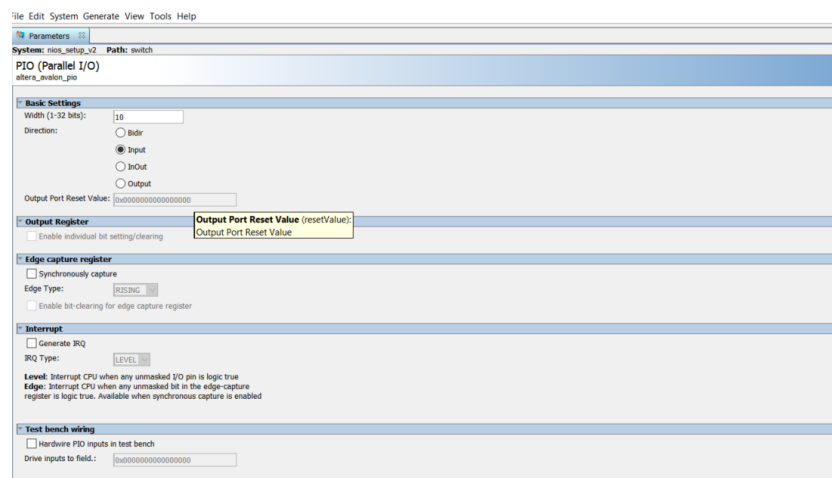

Figure 17: Parallel IO Configuration for Switch Input Panel
- ☐ When you have setup your switch input component interface as in Figure 17, click **Finish**.